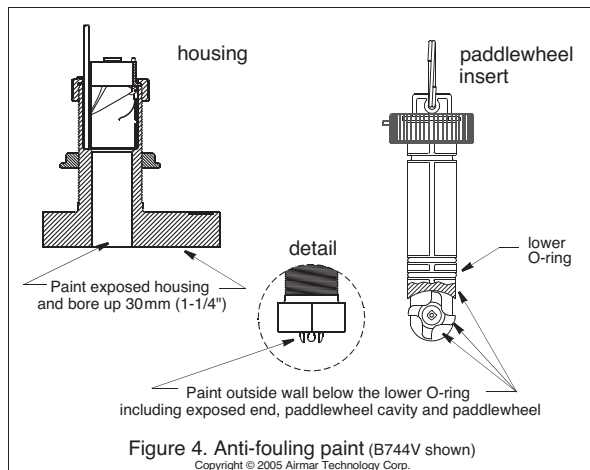

Figure 4. Anti-fouling paint (B744V shown)
**B744V/VL**—Paint the following surfaces (Figure 4).